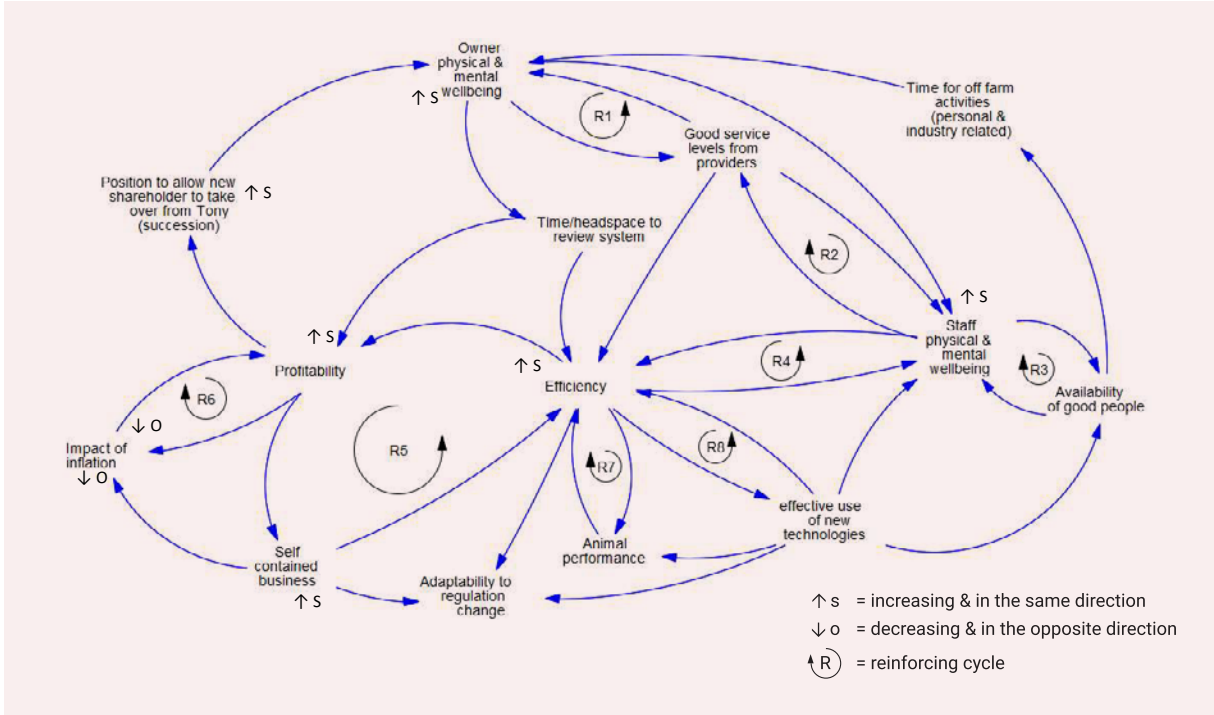

Figure 2: Causal loop diagram workshopped by project participants
3. **The causal loop diagram.** A causal loop diagram is a map of a system, making relationships between factors clear and enabling farmers and rural professional teams to identify leverage points (see Figure 2). By taking time to map out the wide range of natural, human, technological, business and other factors in running a resilient farming business, and noting down how each might affect the other, leverage points within the system started to appear. In one example, ‘operational management controls’ quickly stood out as a central part of the system – changes here would have the greatest ripple effect across the other factors.